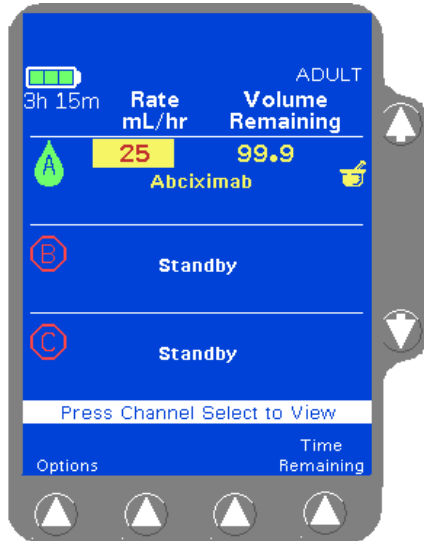

Figure 4-37 Infusion with COLLEAGUE GUARDIAN Limit Override
10. Press the **START** key to begin the infusion. COLLEAGUE GUARDIAN infusions are indicated by the mortar and pestle icon next to the label on the Main Display screen (Figure 4-37)